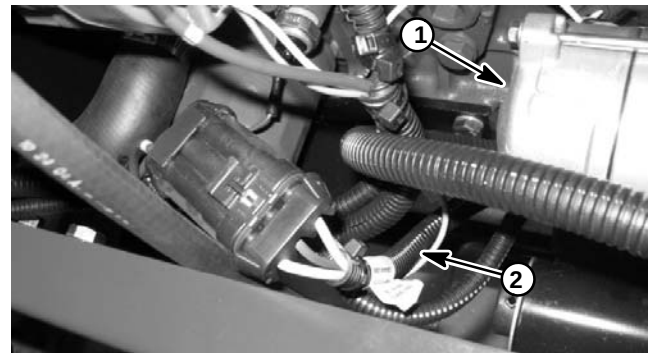

Figure 28
The Groundsmaster 3280-D and 3320-D use three (3) fusible links for circuit protection. These fusible links are located in a harness that connects the starter B+ terminal to the main wire harness (Fig. 28). If any of these links should fail, current to the protected circuit will cease. Refer to wire harness drawings in Chapter 11 – Electrical Diagrams for additional fusible link information.